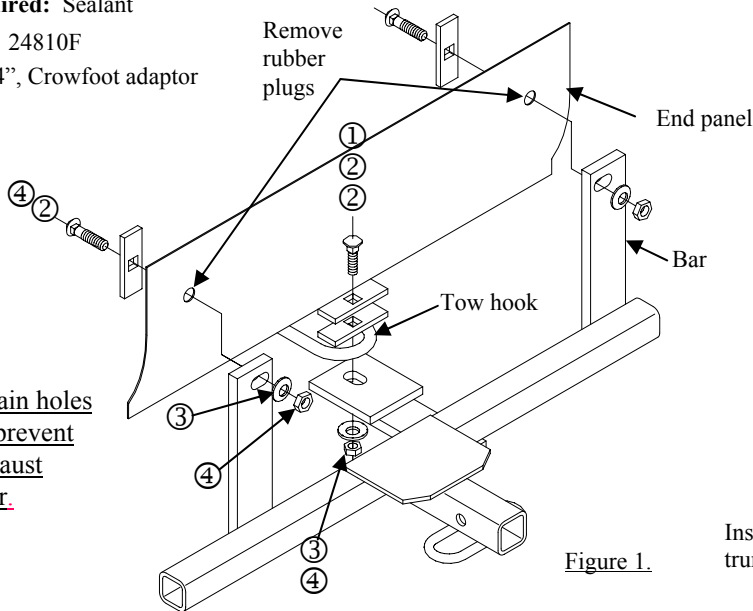

Figure 1.
①	Qty. (1)	Carriage bolt 1/2-13 x 2.25 GR5	④	Qty. (3)	Hex nut 1/2-13
②	Qty. (4)	Spacer	⑤	Qty. (2)	Carriage bolt 1/2-13 x 2.00 GR5
③	Qty. (3)	Conical washer	⑥	Qty. (1)	1/2" Pull wire
2. Remove (2) trunk rubber plugs located in the end panel. Return to owner.
3. Place carriage bolt and spacers (2) onto tow hook. As shown Figure 1.